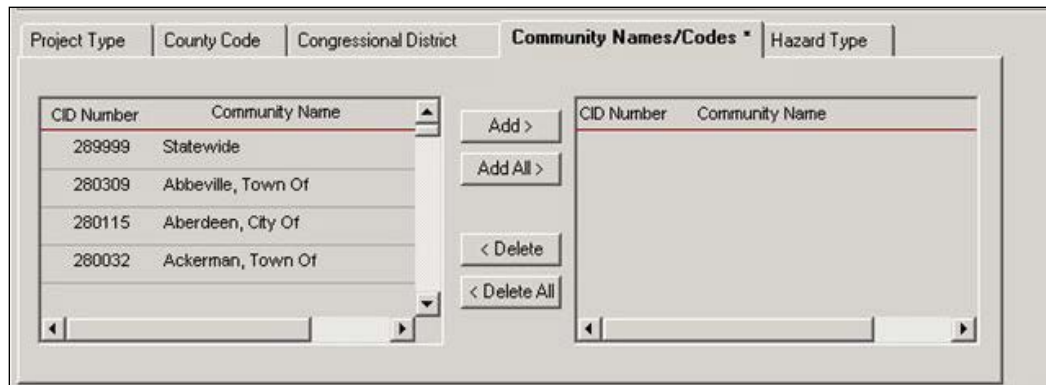

Figure 6-36: Mitigation > Projects > Application Development > Project Info > Community Names/Codes Sub-tab
13. Click the **Community Names/Codes*** sub-tab (Figure 6-36).